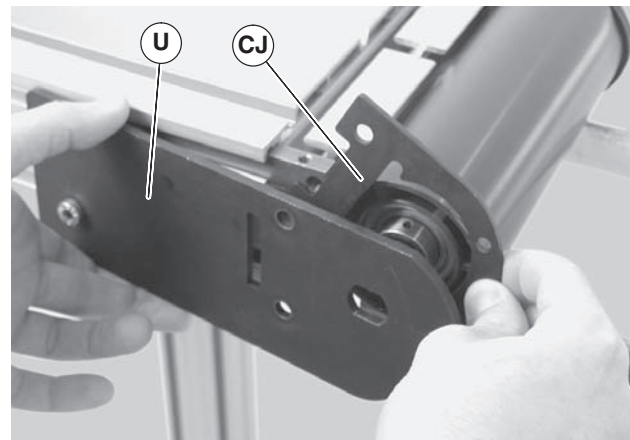

Figure 62
3. Pull back the outer headplate (Figure 62, item U) and remove the inner spacer (CJ).